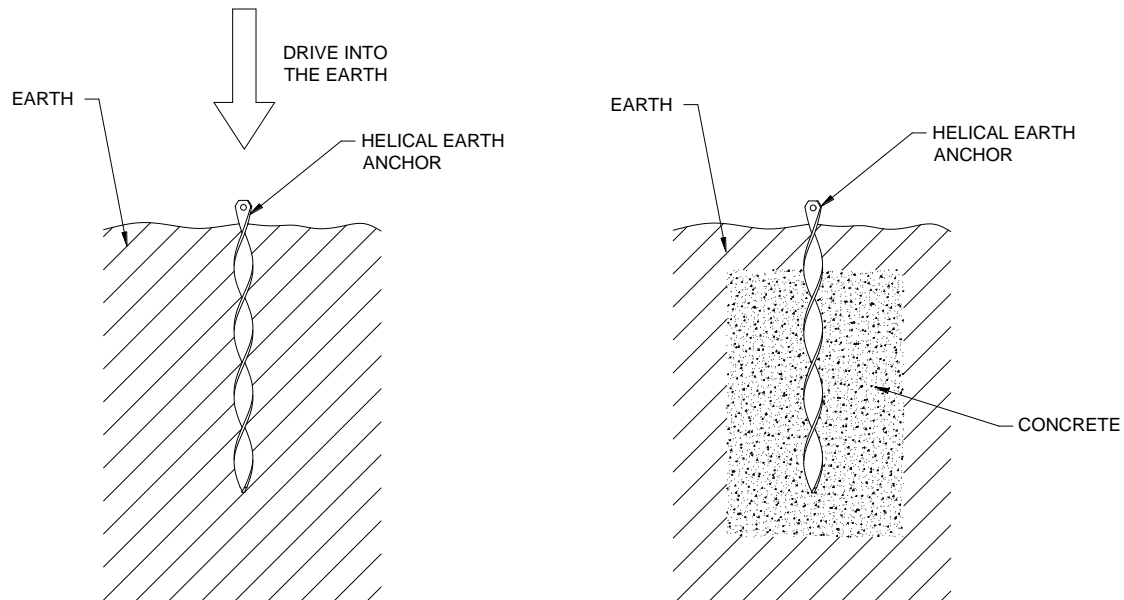

Fig 4: Guy Anchor Fixing
6. **Fix the guy anchors** - Using the positions marked out in step 4, secure the guy anchors into the ground. Concrete the guy anchor into position if required. If the guy anchor is being driven directly into the soil, ensure that the guy anchor is driven into the earth vertically or at an angle pointing away from the tower - see fig 4.